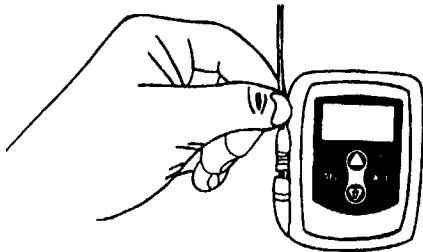

FIGURE 2: Attach the Cable to the Continuous Glucose Monitor
Step 1. If it is not already connected, insert the connector end of the Cable into the Continuous Glucose Monitor. Rotate the connector gently until the pins in the Cable line up with the sockets in the monitor port. Advance the connector into the monitor port until it seats snugly into place (Figure 2).